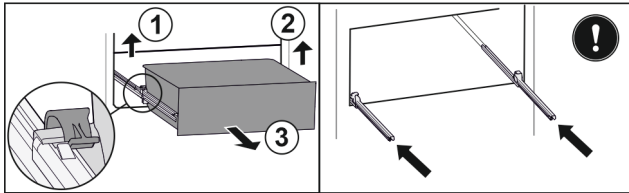

Fig. 28
- ▶ Lift left clamp and simultaneously pull drawer forwards on the left. Fig. 28 (1)
- ▶ Lift right clamp and simultaneously pull drawer forwards on the right. Fig. 28 (2)
- ▶ Remove drawer to the front. Fig. 28 (3)